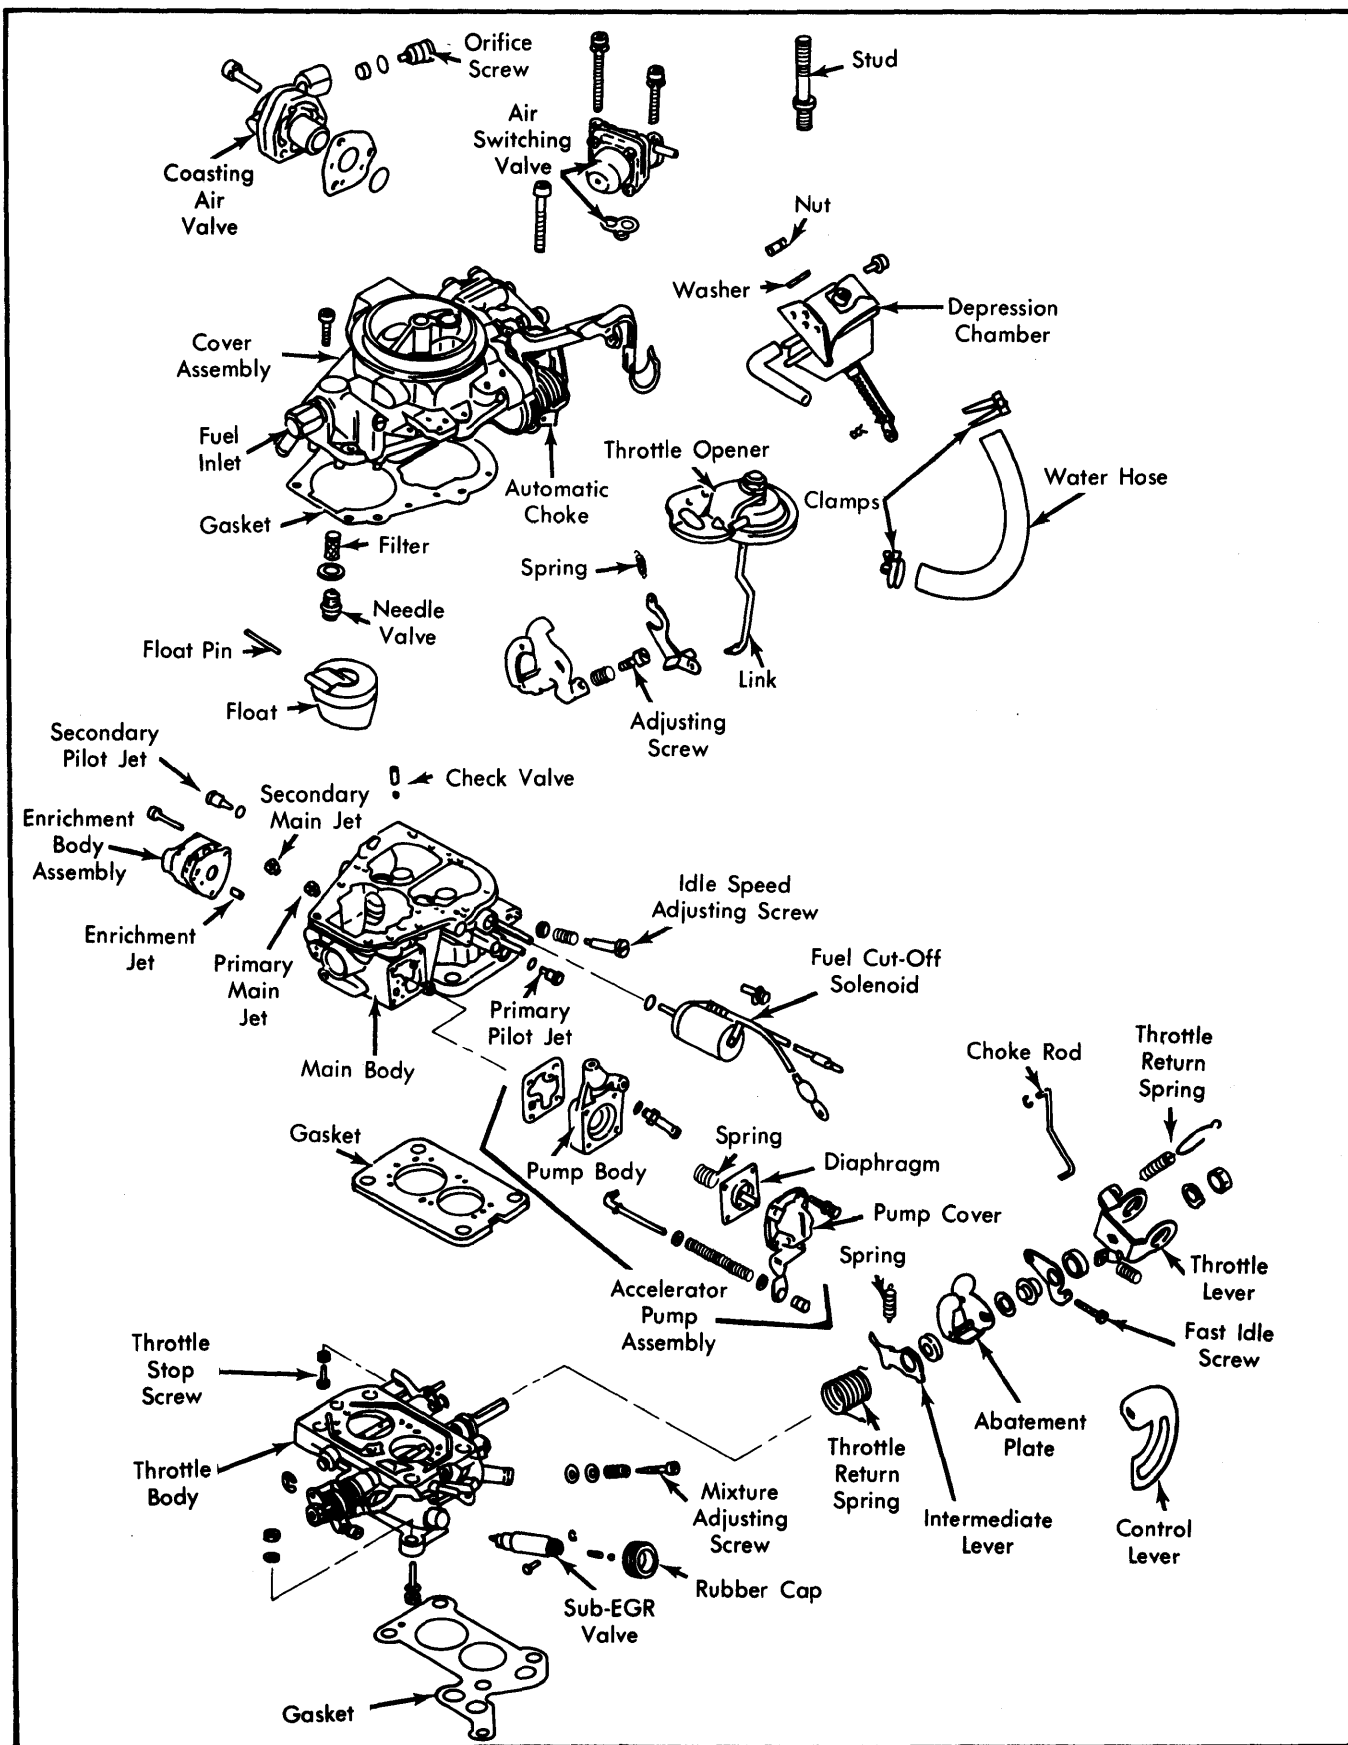

Fig. 6 Exploded View of Solex (Mikuni) DIDTA 2-Barrel Carburetor
1) Remove carburetor and disconnect water hose from choke body. Remove throttle return spring and damper spring. Remove throttle adjusting lever spring and secondary return spring. Remove choke unloader link, vacuum hose, diaphragm chamber link and chamber. On Champ and Colt front wheel drive models, remove throttle opener. Remove air switching valve. See Fig. 6.